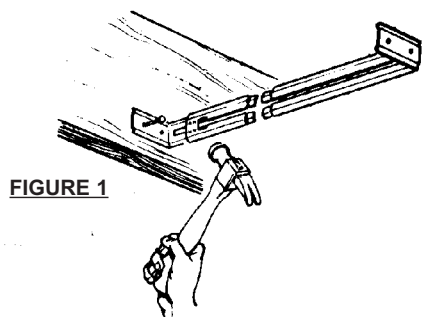

FIGURE 1
1. Nail one B-6 bar hanger to ceiling joist or attach to suspended ceiling support member with clamps in Packet 94. (Standard 1-1/2" carrier channels can be used to install fixture). (Figure 1 & 2)